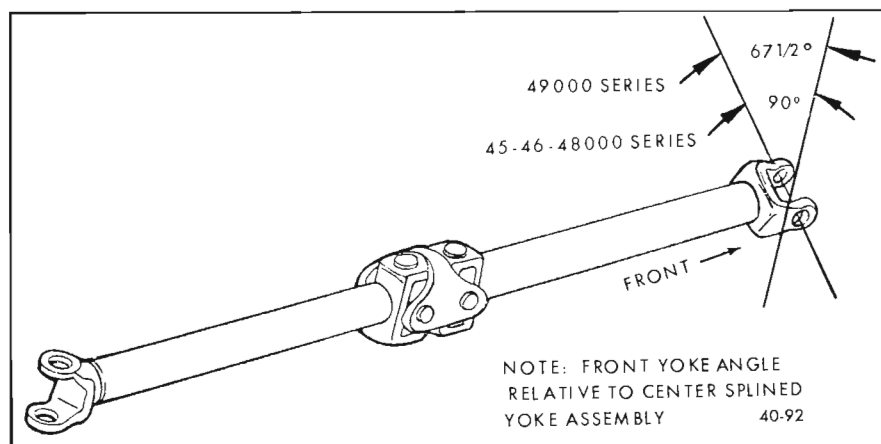

Figure 40-92—Propeller Shaft Phasing
2. Align the index spring with the missing internal spline in the rear end of the front propeller shaft and slide the slip joint together. See Figure 40-92 for proper phasing of the propeller shaft.